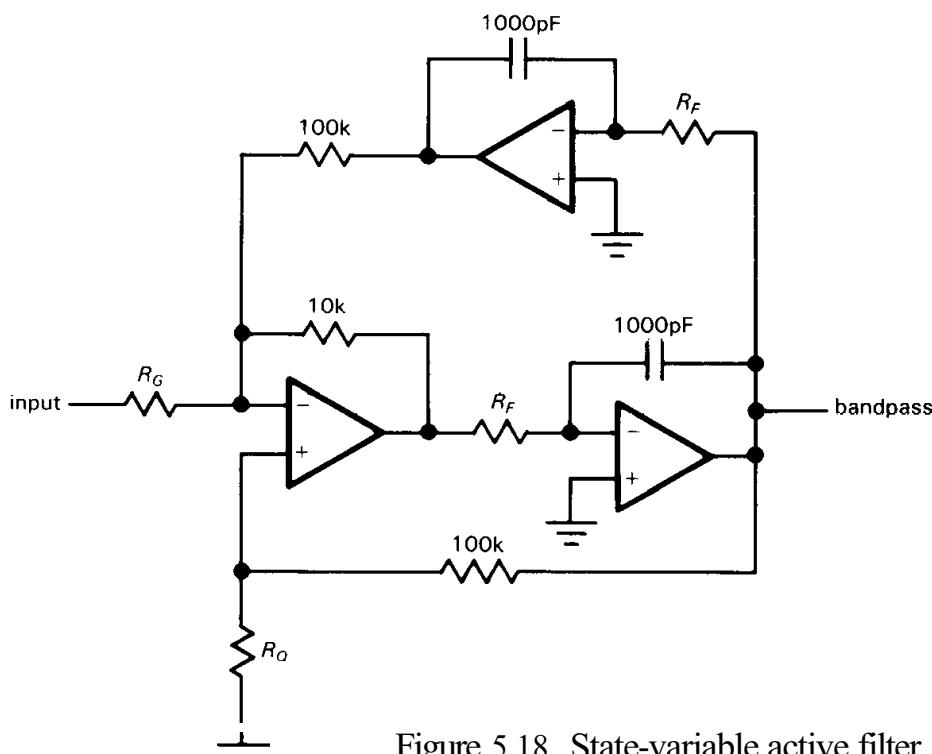

Figure 5.18. State-variable active filter.
The 2-pole filter shown in Figure 5.18 is far more complex than the VCVS circuits,
The state-variable circuit, in spite of its large number of components, is a good choice for sharp (high-Q) **bandpass** filters. It has low component sensitivities, does not make great demands on op-amp bandwidth, and is easy to tune. For example, in the circuit of Figure 5.18, used as a bandpass filter, the two resistors  $R_F$  set the center frequency, while  $R_Q$  and  $R_G$  together determine the Q and band-center gain:
**Calculate resistor values in Figure 5.18 to make a bandpass filter with  $f_0 = 1\text{kHz}$ ,  $Q = 50$ , and  $G = 10$ .**